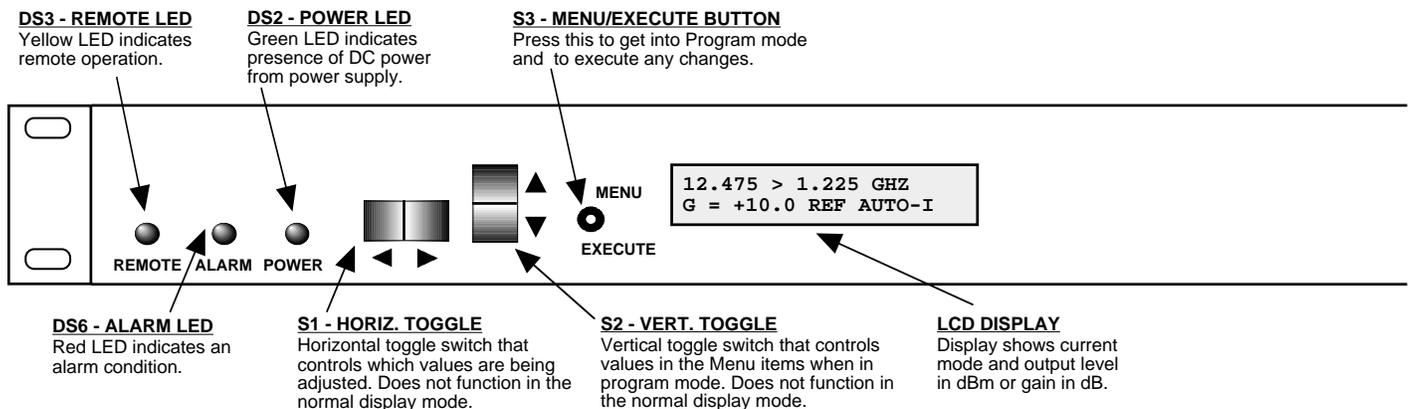

FIGURE 2.2 3116-125 Front Panel Controls and Indicators
Figure 2.2 shows the front panel controls and indicators.
5. Be sure DS2 (green, DC Power) is on and DS6 (red, Alarm) is off (Figure 2.2).
Alarm indications appear on the LEDs (see Figure 2.2).